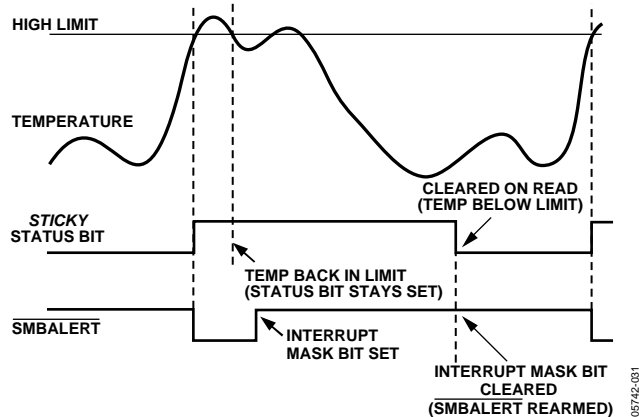

Figure 30. How Masking the Interrupt Source Affects $\overline{\text{SMBALERT}}$ Output
- Periodically poll the status registers. If the interrupt status bit has cleared, reset the corresponding interrupt mask bit to 0. This causes the $\overline{\text{SMBALERT}}$ output and status bits to behave as shown in Figure 30.